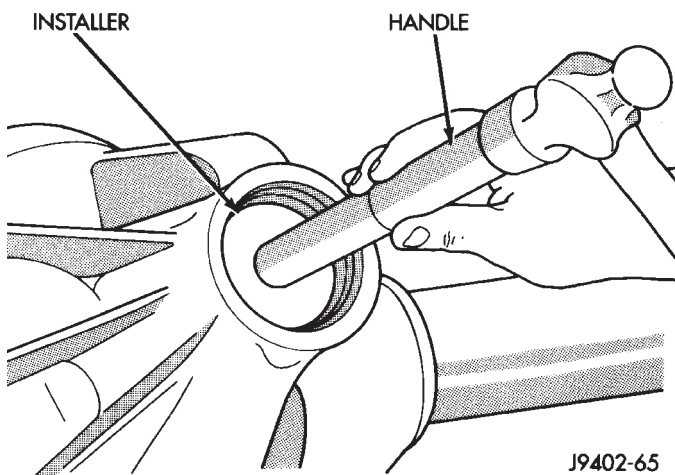

Fig. 31 Pinion Front Bearing Cup Installation
(4) Apply Mopar® Door Ease, or equivalent, stick lubricant to outside surface of bearing cup.
(5) Install the pinion front bearing cup (Fig. 31) with Installer D-130 and Handle C-4171.